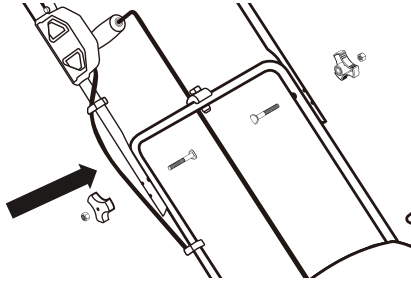

Fig. 4
1. Attach the upper handle onto the middle handle. Choose an appropriate hole on the upper handle as required. Insert the handle locking bolt through the aligned holes from the inner side of the upper handle. Then insert the handle locking knob into the end of the bolt from the out side of the middle handle. (See Fig. 4)